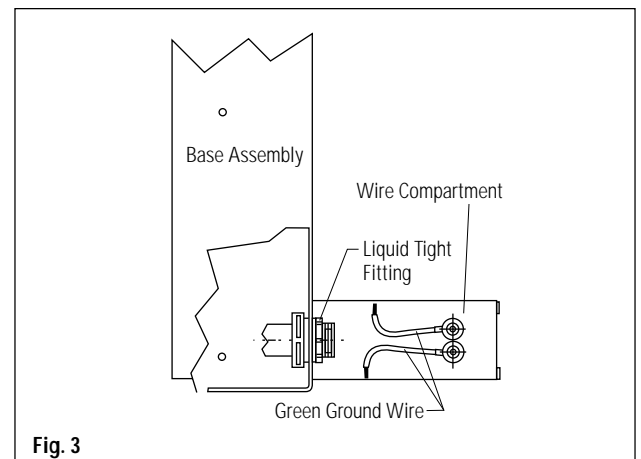

Fig. 3
- Install a liquid tight fitting in the hole of the wire compartment suitable for the wire being used. See Fig. 3.